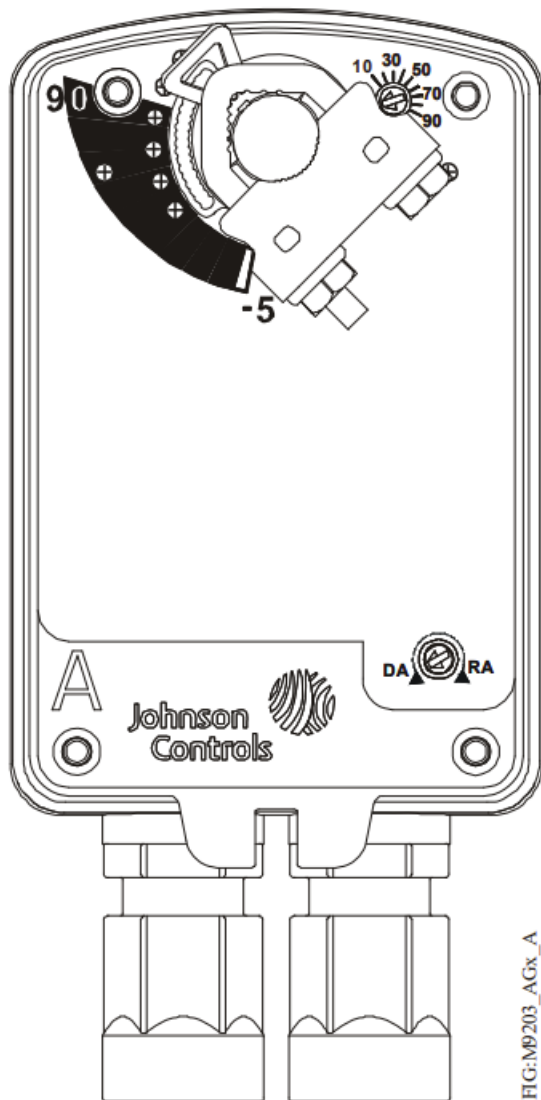
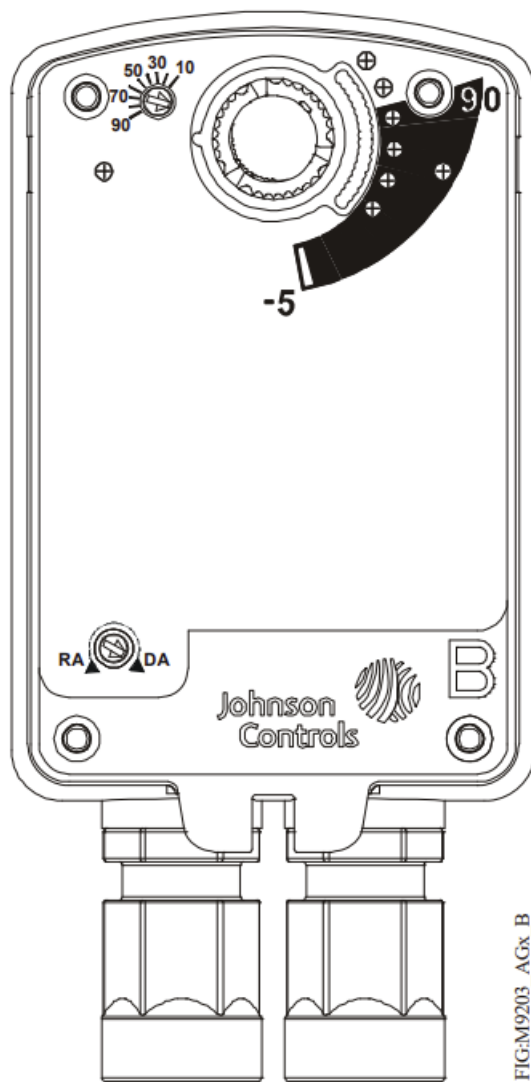

Figure 2: Actuator Side A
Figure 3: Actuator Side B
For CCW spring return direction, mount the actuator to the damper shaft so that Side A of the actuator is away from the damper as illustrated in **Figure 2**. With power applied, the actuator drives CW from the 0° position and spring returns CCW.
For CW spring return direction, mount the actuator to the damper shaft so that Side B of the actuator is away from the damper as illustrated in **Figure 3**. With power applied, the actuator drives CCW from the 0° position and spring returns CW.
The M9203-xxB-2(Z) models include one integral auxiliary switch with a switch adjuster accessible on either face of the actuator (see **Figure 2** and **Figure 3**).